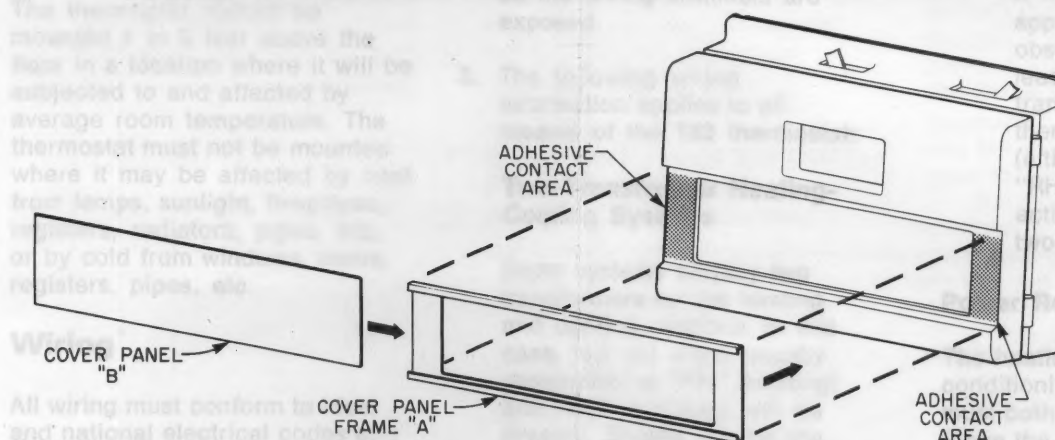

Fig. 13 — Method of installing the cover to the T53.
- Clean the adhesive contact areas (See Fig. 13) with a cloth dampened with dishwashing soap and water. Rinse the areas with a damp cloth (no soap) and dry thoroughly.
- Clean the adhesive contact areas (See Fig. 13) with a cloth dampened with dishwashing soap and water. Rinse the area with a clean cloth (no soap) and dry thoroughly.